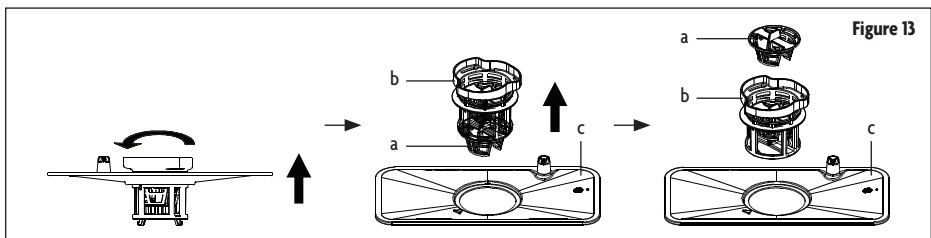

Figure 13
1. Rotate the filter assembly (Figure 13, a, b and c) counterclockwise, then lift upward.
2. Remove the fine filter (Figure 13, b) and coarse filter (Figure 13, a) by carefully pushing up on the fine filter from the bottom of the main filter (Figure 13, c).
3. Remove coarse filter (Figure 13, a) from fine filter (Figure 13, b) by pushing up from the bottom on the tabs holding it to the fine filter.